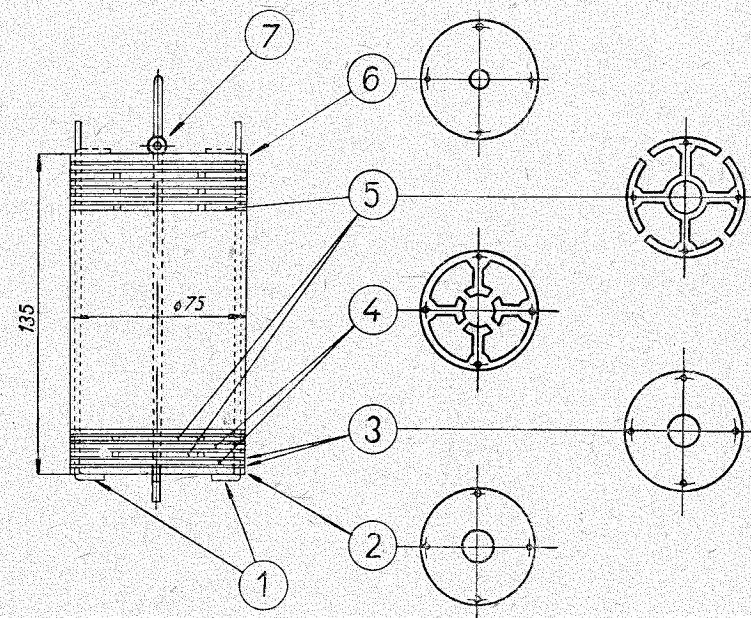

Fig. 39.
bottom cover (see Ref. No. 2, Fig. 39); paper filter plate (3); outer spacer ring (4); another paper filter plate (3);
Having thus assembled the filter element pull it off the centre shaft of the vice, install the eye clips (7) as shown in Fig. 39, and bend their ends.